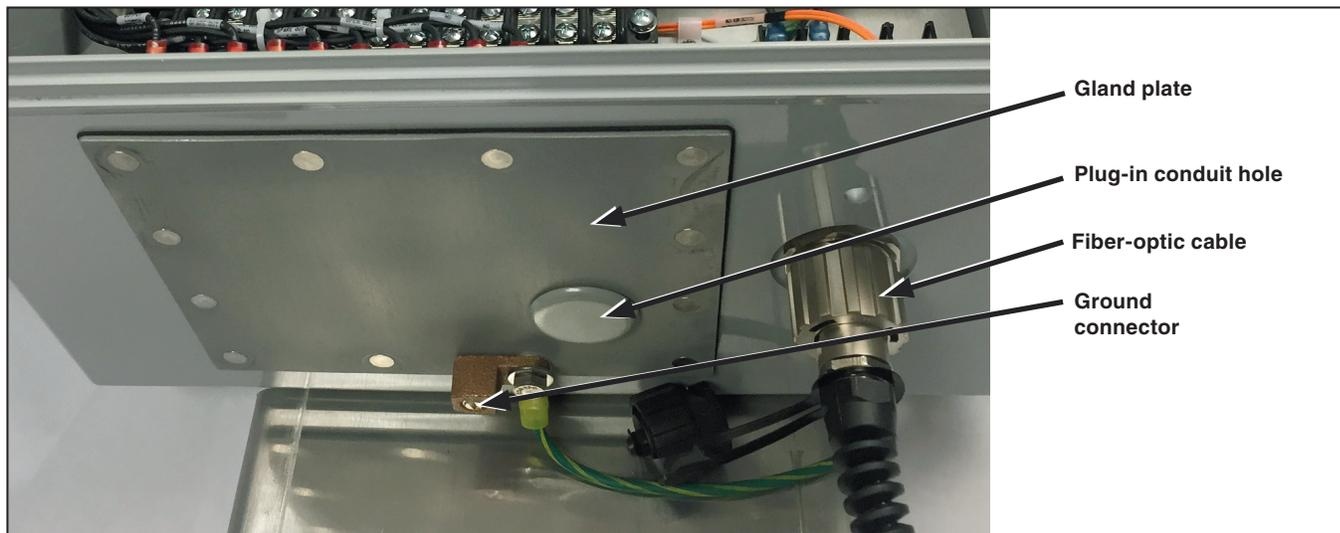

Figure 6. The bottom of the SDA-5798 external interface assembly enclosure.
STEP 4. Determine conduit access needs and remove the gland plate. Add the connection holes as needed. See Figure 6 for location of the gland plate. A hole accommodating a standard $\frac{3}{4}$ -inch liquid-tight conduit connector is provided for the external power supply connection.
STEP 6. Ground the external interface assembly to an appropriate earth ground with an impedance of ≤ 20 ohms. See Figure 6 for location of the ground connection.
STEP 8. Remove the fiber-optic cable protector. Connect the fiber-optic cable to the customer interface assembly and the control module. See Figure 6. For more information refer to Installation Drawing RD-9067.